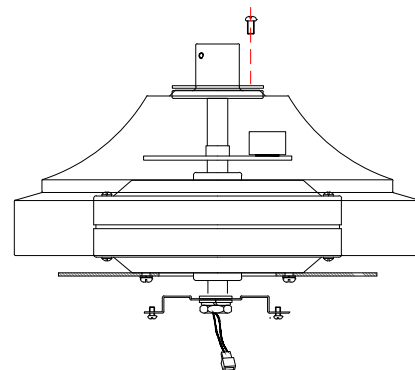

Fig 7
Step 4. re-install the set of screws(6) which were just removed, Tighten all screws securely. See Fig 7